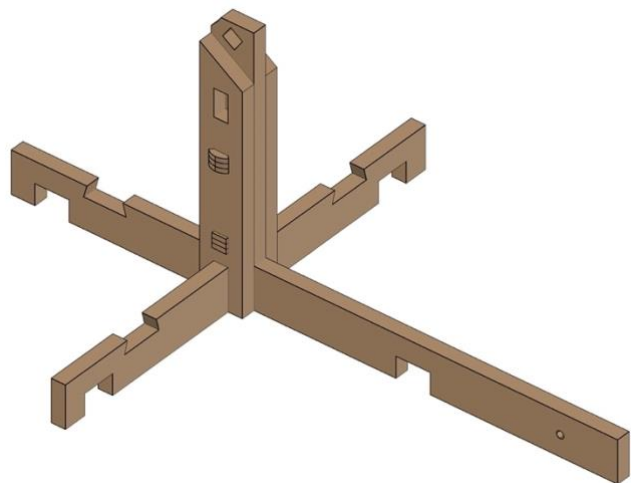

Fig. 40
- *Fig. 40* shows the completed process.